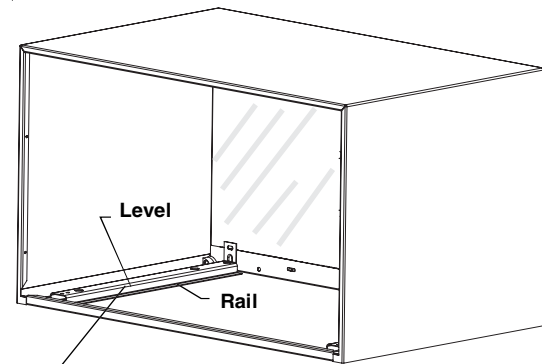

Figure 5
- When installed in the opening, the wall sleeve must be level from side to side and sloped one quarter bubble front to back. **DO NOT SLOPE THE WALL SLEEVE TOWARD THE ROOM.** See Figure 5.